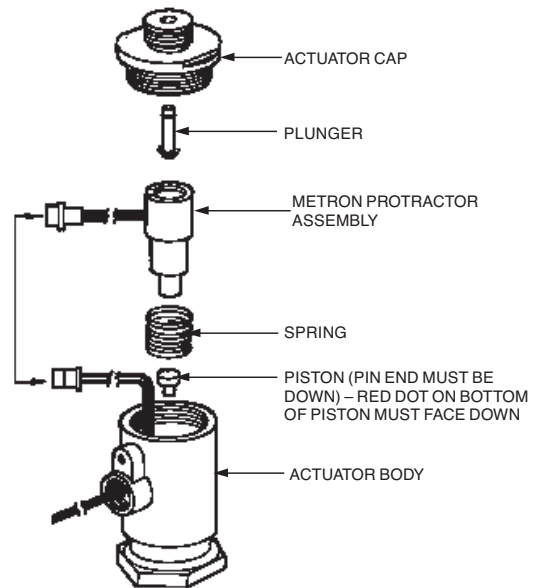

FIGURE 9
3. Unscrew actuator cap. See Figure 9.
4. Lift actuated METRON PROTRACTOR assembly housing out of actuator body and disconnect wire plug. See Figure 9.
7. Position METRON PROTRACTOR housing assembly back into electric actuator body, making certain METRON PROTRACTOR housing assembly and spring are properly seated in bottom of actuator body. See Figure 9.
8. Plug wire connector together. See Figure 9.
10. Make certain plunger moves freely up and down. See Figure 9.